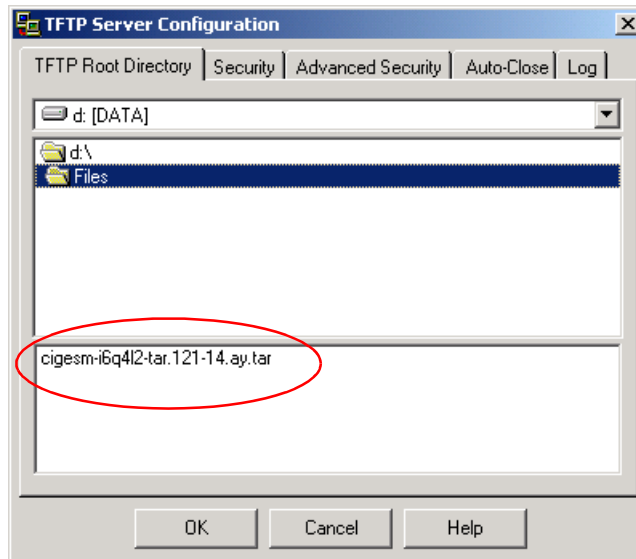

Figure 6-7 Switch firmware location
2. Change the TFTP Root Directory to the location of the Cisco switch firmware to be updated (Figure 6-7).